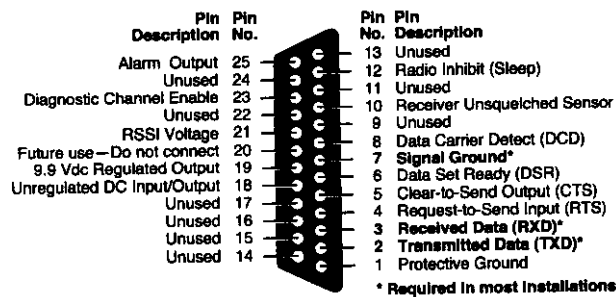

Figure 18. Transceiver interface connector pins
3. Connect the data equipment to the transceiver's DATA INTERFACE connector. Use only the required pins for the application — Do *not* use a fully pinned (25 conductor) cable. Typical applications require the use of Pin 2 (transmit data—TXD), Pin 3 (received data—RXD) and Pin 7 (signal ground). Figure 18 shows a detailed view of the DATA INTERFACE connector.